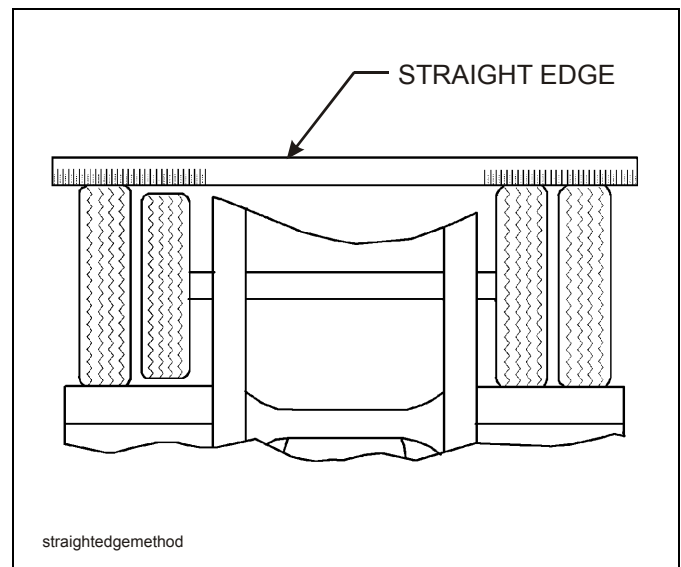

Figure 4-16: Straight Edge Method
2. **Straight Edge or String Method:** (This method cannot be used if tire and wheel assemblies are not mounted on the axle.) Jack trailer up until the wheels are off of the ground. Hold a straight edge against the tires of both ends of an axle. A gap at one tire indicates a smaller tire. A maximum of 1/8" gap is allowed (See **Figure 4-16**.)